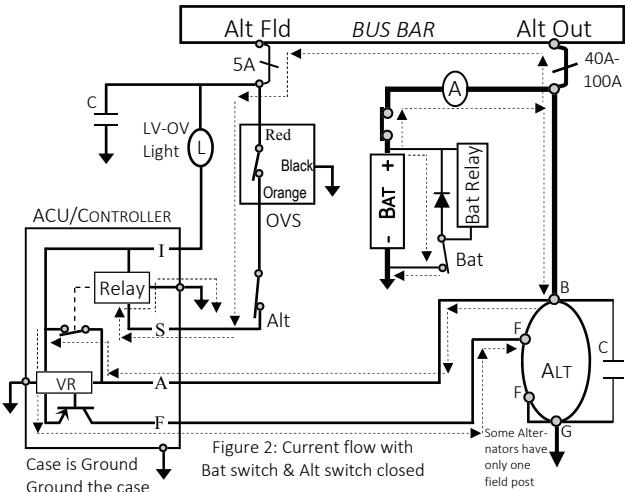

Figure 2: Current flow with
Figure 2. With the battery switch closed and battery voltage applied to the bus, closing the Alt switch applies battery voltage to pin S through the Over Voltage Sensor (OVS). The OVS' output controls a relay inside the alternator controller. With power applied to pin S, the relay's normally open (NO) contacts closes and connects pin A and pin I. Connecting pins I and A causes the voltage at pin I and the Bus to be the same, meaning no potential difference exists between the two sides of the LV-OV light. The lack of potential difference means no current flow through the light and the light goes off or stays off.